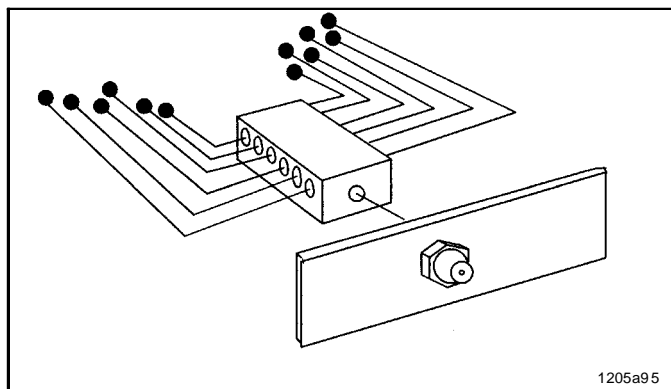

Fig. 3-1 Central lubrication point
- Quicklub progressive metering devices offer the option of combining several lubrication points on a machine to one or more central lubrication points, as shown in Fig. 3-1, which illustrates this basic feature.
- Progressive metering devices can be used in two-line or single-line centralized lubrication systems in order to increase the number of outlets of multiline pumps or to subdivide the single metering devices and measuring valves (Fig. 3-1 to 3-5) also as secondary metering devices in large and small oil circulating systems.